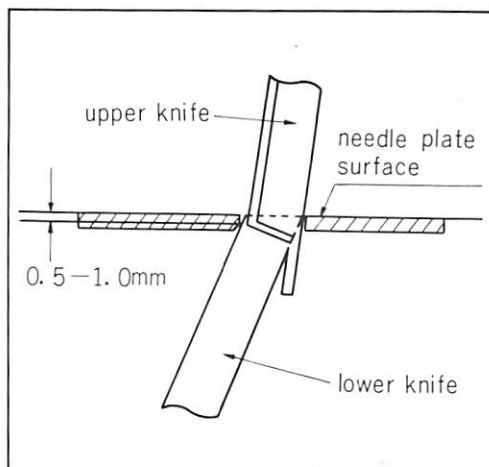

Fig. 7
Cutting edge flush of lower knife must be set with needle plate surface as shown in Fig. 7. Be sure to tighten thumb screw (Q) after lower knife is set correctly. Caution! To set cutting edge flush of lower knife above or below needle plate surface must be avoided.
To remove upper knife, loosen screw (W) and withdraw upper knife upward. Upper knife is spring pressed, so pushing upper knife holder (X) with fingers to right, insert upper knife until its cutting edge is positioned to the right of lower knife. To set upper knife correctly, front cutting edge of upper knife should extend, at its bottom of stroke, not less than 0.5mm–1mm below front cutting edge of lower knife, as shown in Fig. 7. Tighten screw (W) securely.